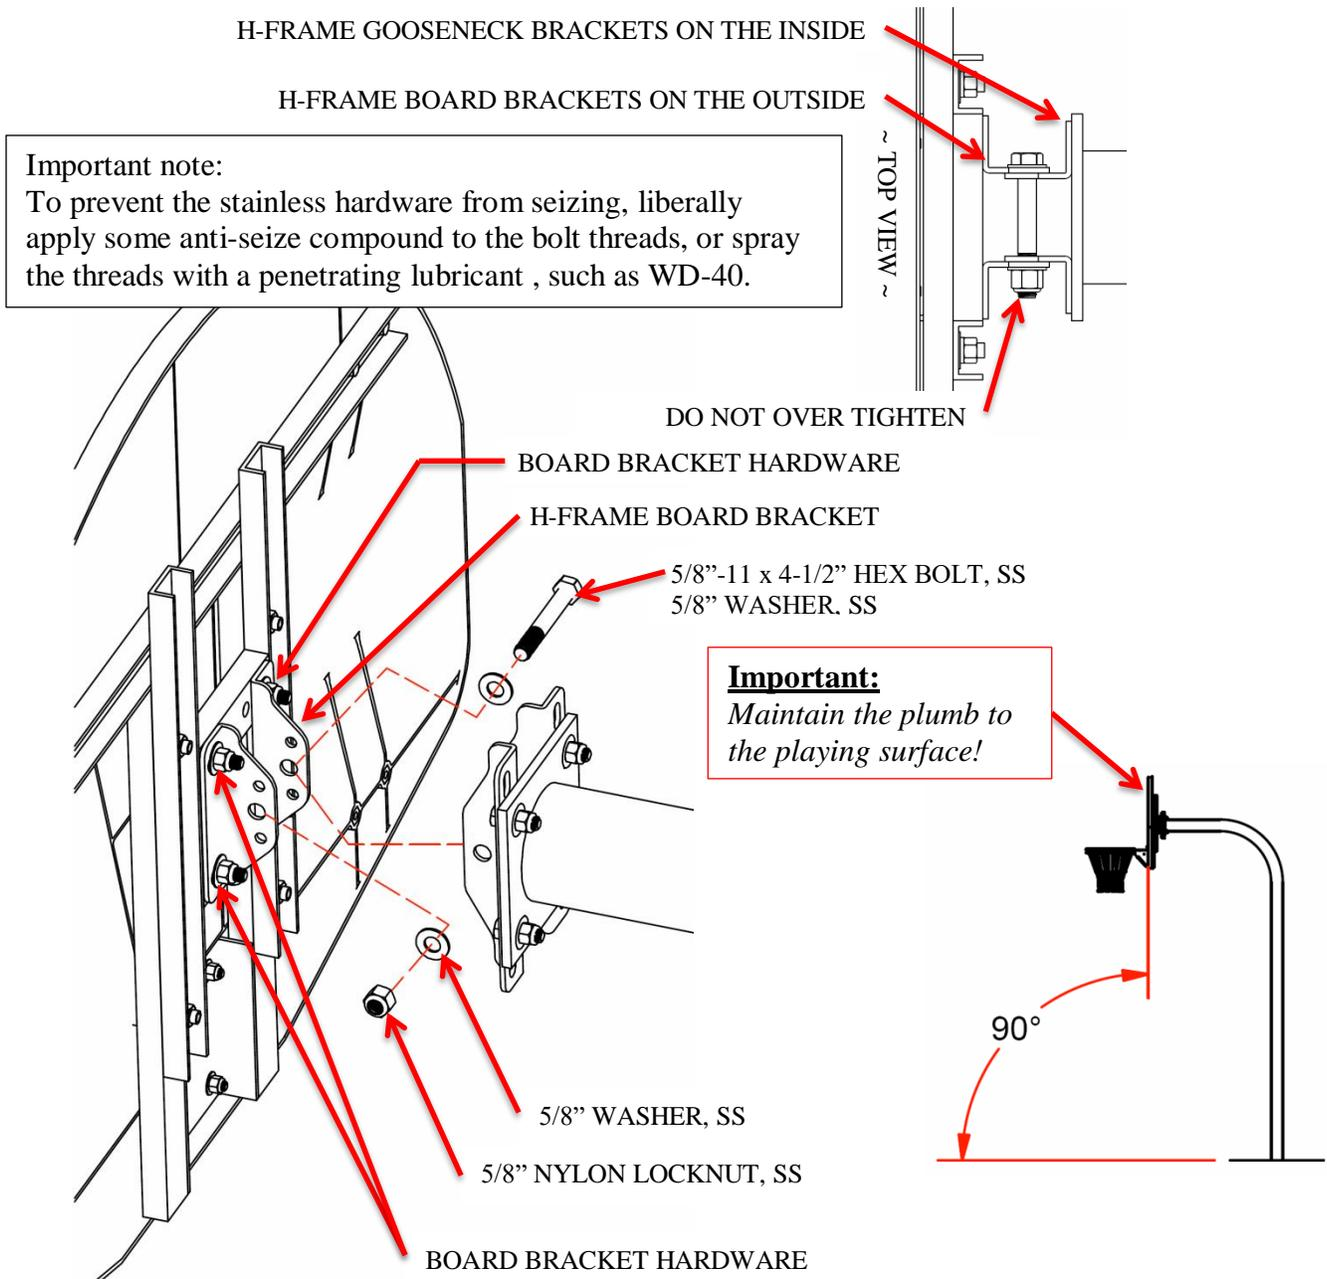

Figure 9
2. Once the H-Frame board brackets in on the H-Frame gooseneck bracket. Tighten the board bracket hardware (*Figure 9*).